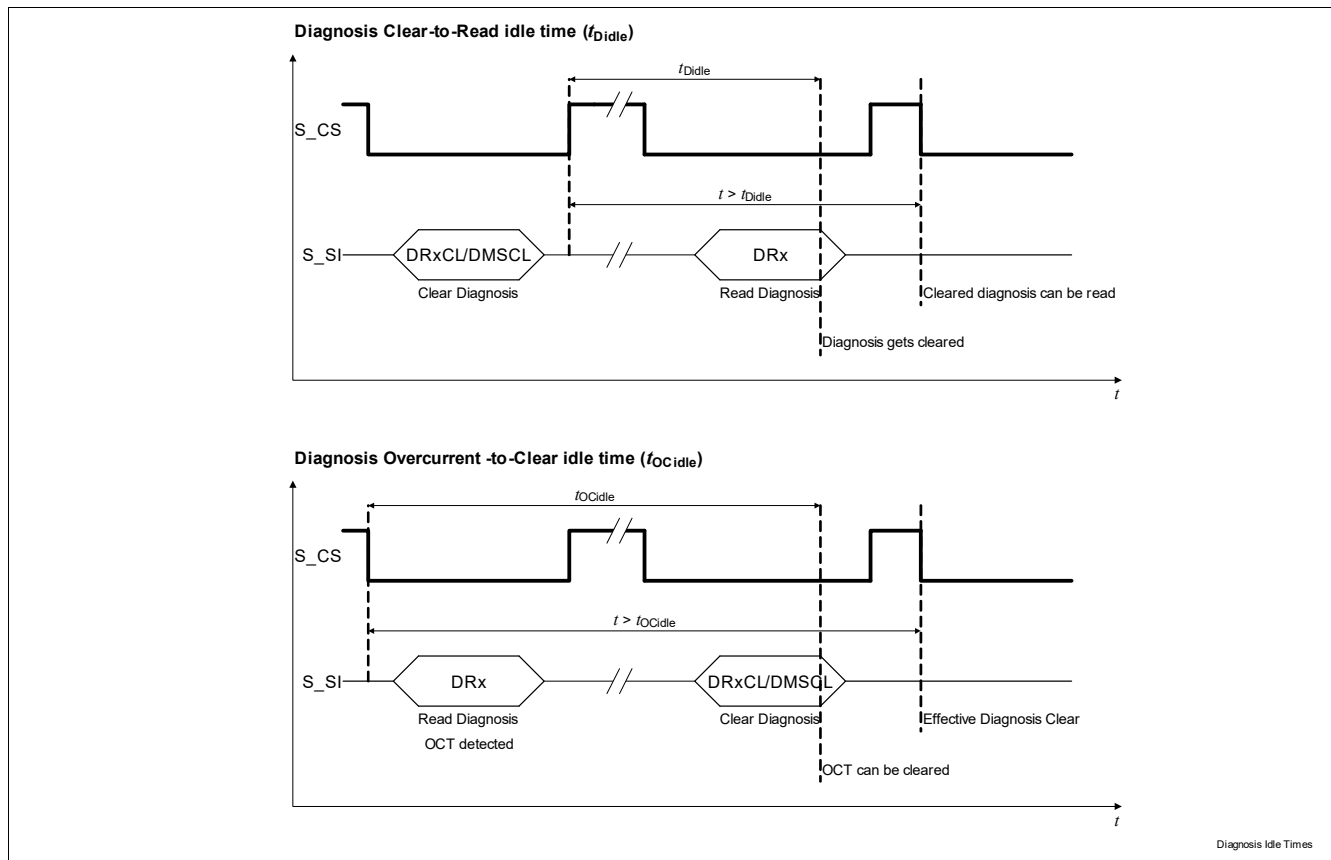

Figure 39 Diagnosis idle times
When issuing a Diagnosis Register Clear command (DRxCL or DMSCL), the idle time t_{DIdle} needs to elapse, from the CS low-to-high transition of the clear command, before the register content is effectively cleared (Figure 39); This time has to be taken into account when trying to read the Diagnosis register content after a clear, see Chapter 11.3 for t_{DIdle} definition.
After an overcurrent entry is stored in the diagnosis register (OC), the idle time t_{OCIdle} needs to elapse before a clear command can effectively clear the entry; if trying to clear the Diagnosis register after an OCT entry is read (Figure 39), this time has to be taken into account starting from the CS high-to-low transition of the previous read command, see (Chapter 11.3) for t_{OCIdle} definition.